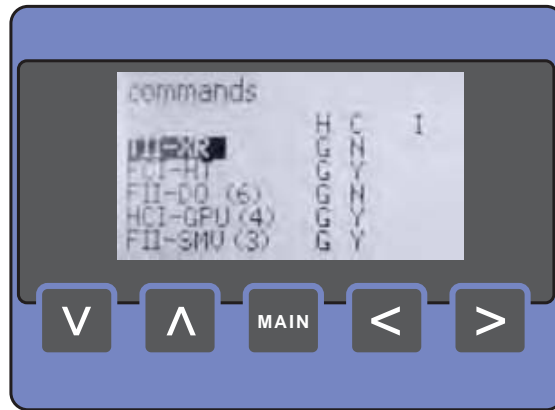

FIGURE 4-10
- The [commands] menu starts with the [board list] screen (see FIGURE 4-10).